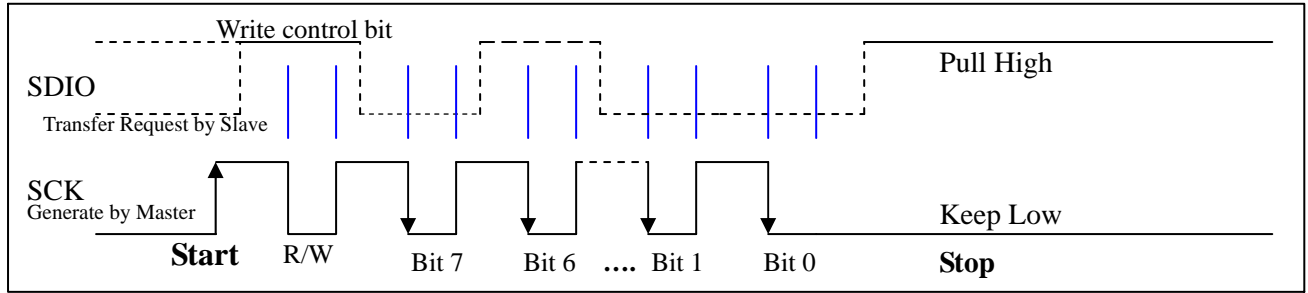

Fig.5 Write Cycle
- ◆ Master transmits data to Slave. Please refer to Fig.5.